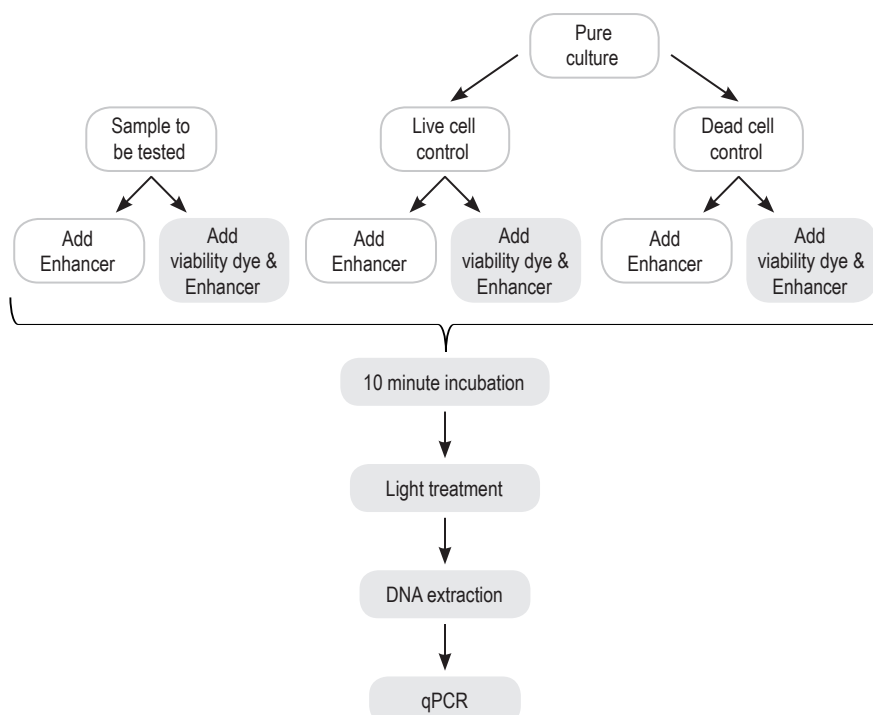

Figure 2. Workflow overview for viability PCR workflow of gram-negative bacteria using Enhancer.
8. In order to validate PMA or PMAxx™ effectiveness in your sample of interest, it is best to perform live-cell and dead-cell controls, each with and without dye (Fig. 2). The change in Ct (dCt) caused by PMA or PMAxx™ for each control should be assessed (see "Data Analysis", p. 2).
See Fig. 2 for an overview of the procedure. This is a general protocol for treating cultured strains of bacteria with PMA or PMAxx™. It is recommended that you first perform a control experiment with live and dead controls for your selected organism. Treatment of complex samples, such as feces or soil, may require optimization of sample dilution, dye concentration, and light treatment time. Treatment of dilute samples, such as water testing, may require filtration or concentration before dye treatment.
3. Pipette 400 uL aliquots of bacterial culture into clear microcentrifuge tubes. For each sample you will need one tube for dye-treated cells and one tube for untreated (no dye added) in order to calculate dCt (see Fig. 2, “Considerations for viability PCR” #8, and “Data Analysis” for details).